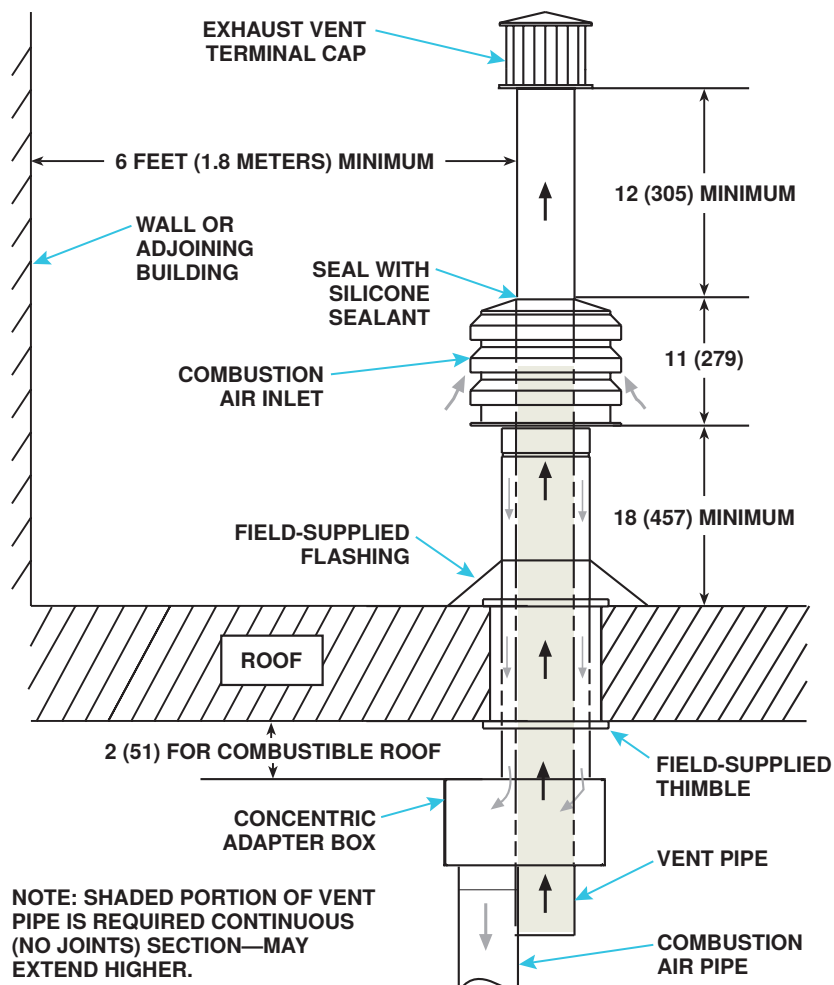

Figure 18. Option CC2 Installation
- b. Select location away from fresh air intakes, allowing space for concentric adapter box inside. Vent terminal must be located away from adjacent buildings as shown in Figure 18.
11. Verify compliance with Figure 18 and with all specific venting requirements listed above.